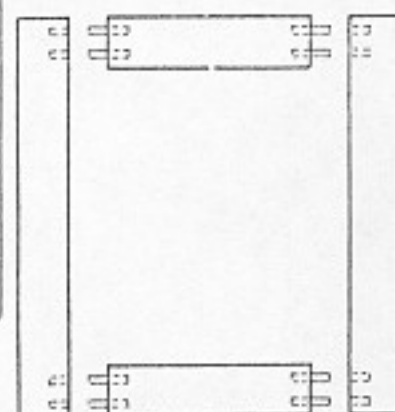

Fig. 219. Doweled frame ready for gluing.
5. The holes are bored, the dowels are prepared, and the frame is glued together as explained in Article 82, steps 6 to 9 (Fig. 219).